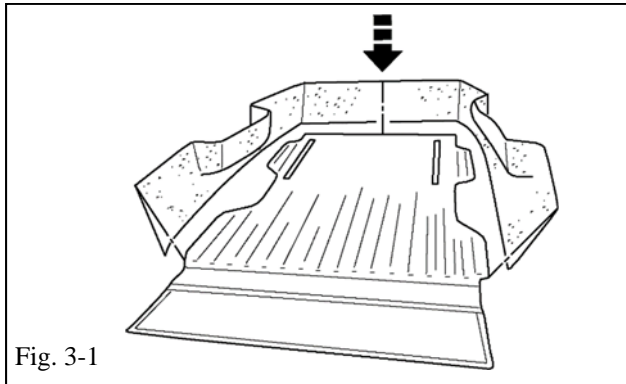

Fig. 3-1
- Align the sides of the bed liner as shown. **NOTE: BED LINER FLOOR IS FACE DOWN FOR THIS OPERATION.** (Fig 3-1)